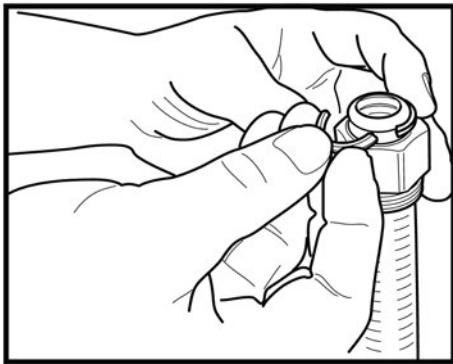

Figure: 4-30
4. Slip nut over end of pipe and insert split rings into valley of the first corrugation. Figure: 4-30